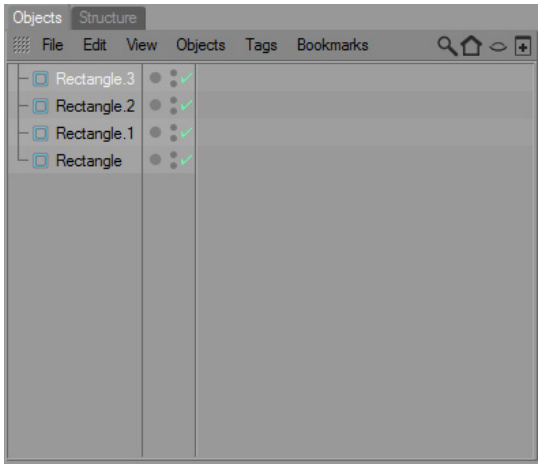

Figure 2-37 *Rectangle.3 added to the Object Manager*
11. Make sure that *Rectangle.2* is selected in the Object Manager. Next, press and hold the left mouse button and the CTRL key and then drag and drop the cursor in the empty space; a copy of *Rectangle.2* is created and added to the Object Manager with the name *Rectangle.3*, as shown in Figure 2-37.